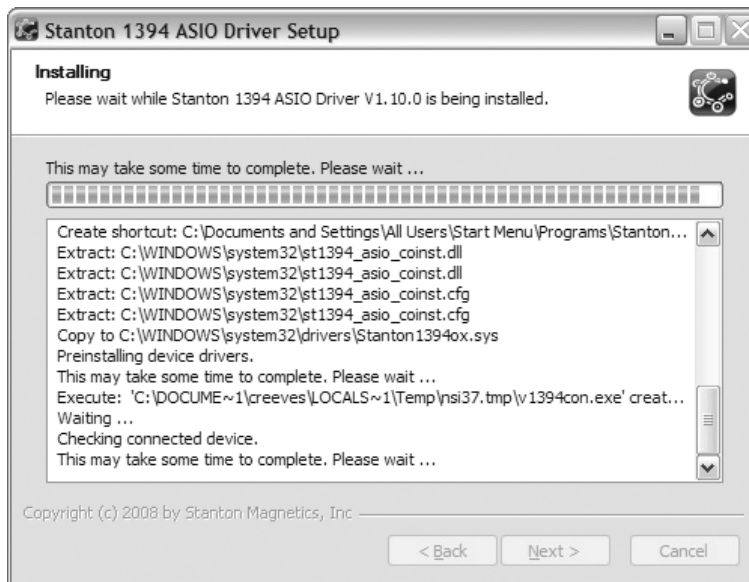

Figure 4.8
- Wait for a few seconds, normal operation will resume shortly. (Figure 4.8)